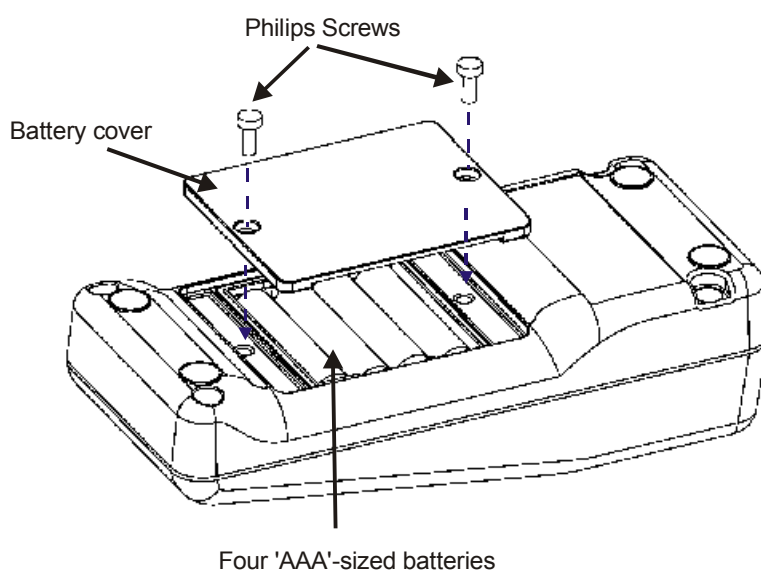

Figure 4: Battery Installation
1. Use a Philips screwdriver to remove the two screws holding the battery cover. See Figure 4.